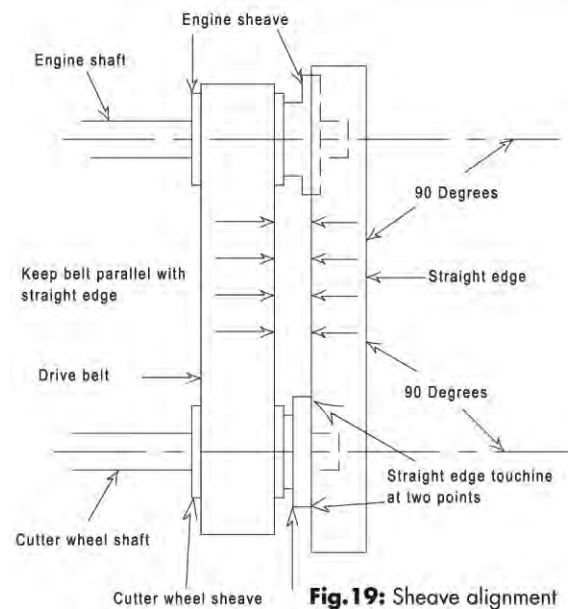

Fig.19: Sheave alignment
- vi. Check alignment of sheaves with a straight edge (see Figure 19)